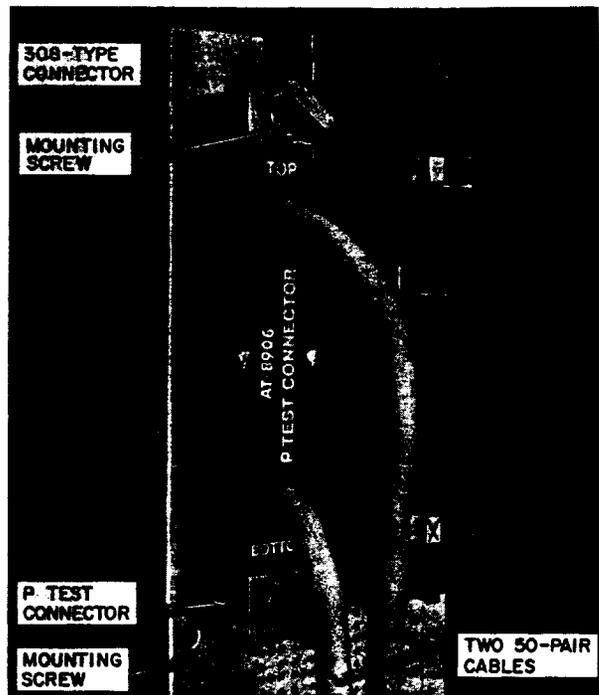

Figure 4—P Test Connector (AT-8906)—Mounted on a 308-Type Connector
2.05 The P test connector (Figure 4) is used to connect the 100-pair test terminal field of the 308-type connector to automatic pair identification equipment. The test connector contains 200 (100 pairs) spring-loaded contacts that are internally connected to two 50-pair, 15-foot long cables. Each cable terminates on two 25-pair KS-19162, L4 (or equivalent) connectors for attachment to automatic pair identification equipment. The four connectors are numbered 1-25, 26-50, 51-75, and 76-100 to identify the respective cable pair count. The test connector is furnished with an F (AT-8854) carrying case.